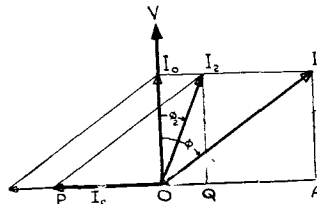
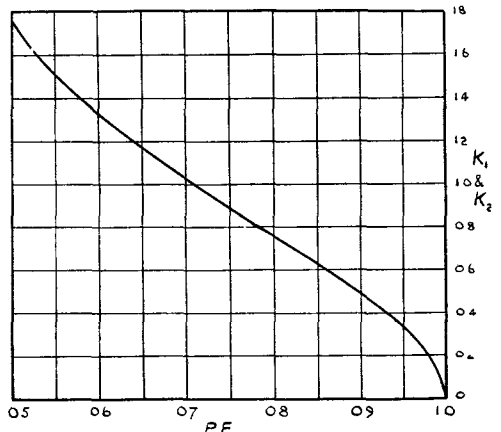
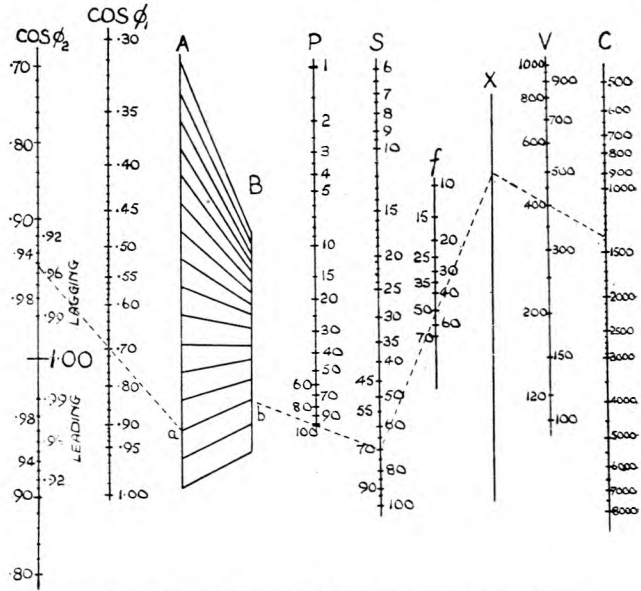

Fig. 4.—VECTOR DIAGRAM OF CONDENSER IN INDUCTIVE CIRCUIT.
Fig. 5.—CURVE FOR THE DETERMINATION OF CONDENSER KVA.
Fig. 6.—NOMOGRAM FOR DETERMINING CONDENSER kVA. AND CAPACITY DIRECTLY
The current leads the voltage by 90°, and in Fig. 4 we see the relative positions of the vectors *V* and  $I_c$  in graphical form. The vectors comprising Fig. 2 have been added to this diagram, a study of which will show that the lagging wattless current represented by *OA* in Fig. 4 can be balanced out to a greater or less extent by the leading wattless current  $I_c$ . For instance, if the current taken by the condenser be represented by *OP*, the resultant wattless current taken by the whole circuit will be *OA* — *OP* = *OQ*, which gives a total current  $I_2$  flowing in the circuit. This current has obviously a much higher power factor than *I*, and its magnitude  $OI_2$  is less than *OI*. If the capacitative current  $I_c$  is made equal to *OA*, the wattless components in the circuit entirely balance out, and the current flowing is *I* at unity power factor.
The condenser kVA. required to correct a given kilowatt load from a low P.F. to a higher one can be calculated from the constant of the circuit with the aid of the vector diagram in Fig. 4, but these calculations may be avoided by the use of one of the methods illustrated in Figs. 5 and 6. By the use of Fig. 5 the required condenser kVA. may be determined. The nomogram reproduced in Fig. 6 can likewise be used to find the condenser kVA., and this figure can also be extended to determine the capacitance required at the particular voltage and frequency of the circuit.
is 0.70 and it is desired to improve this to 0.95. *Method (1)*—see Fig. 5.
*Method (2)*—see Fig. 6.